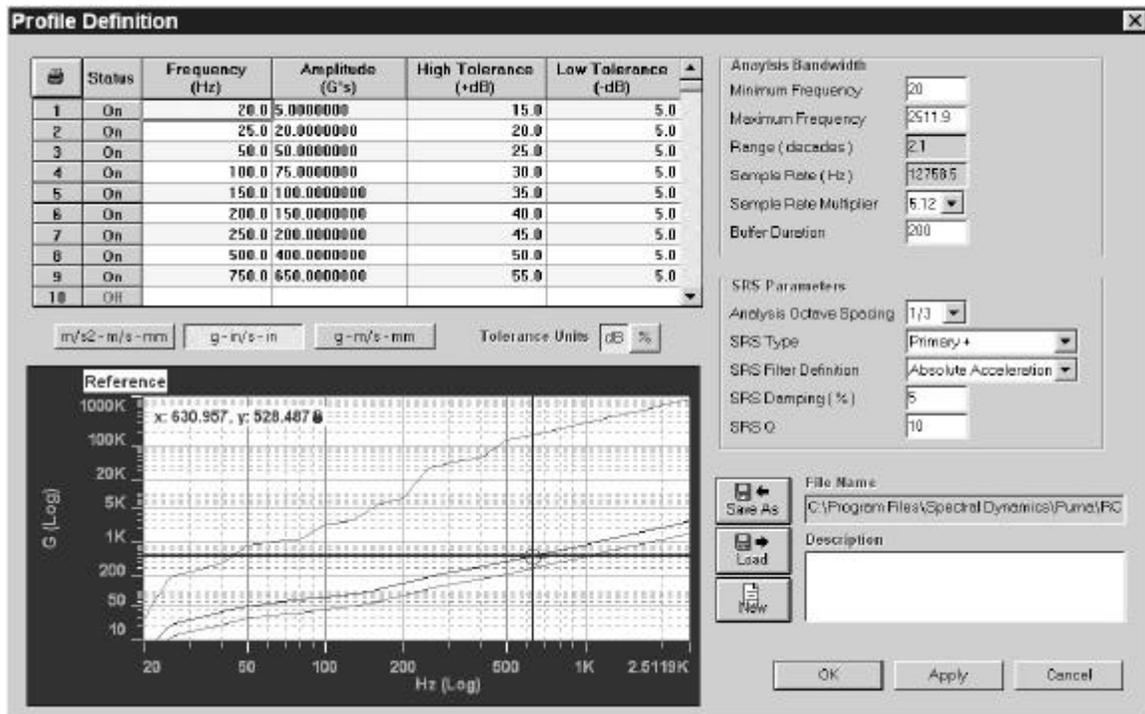

Figure 1-5. Profile Definition Window
3. Click **SETUP** ⇒ **PROFILE** or click the < Profile Setup > Button . The Profile Definition Window appears. See Figure 1-5.